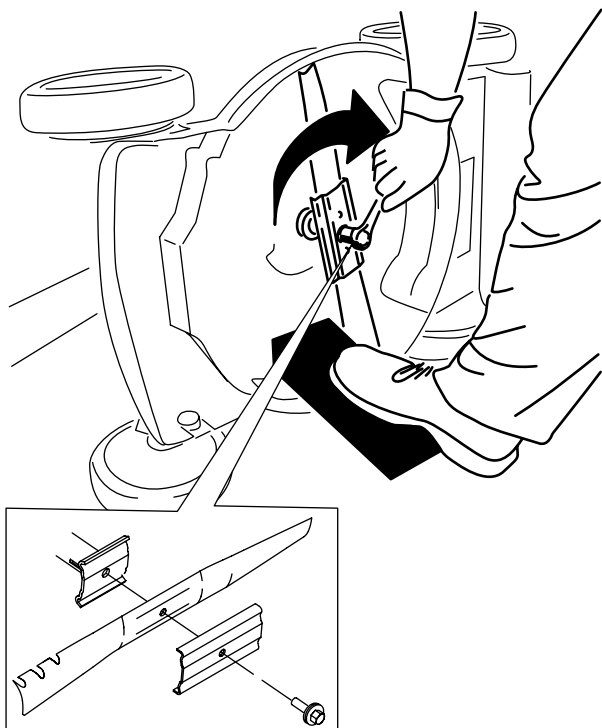

Figure 28
5. Install the new blade and all mounting hardware (Figure 28).
1. Turn the adjustment nut counterclockwise to loosen the cable adjustment (Figure 28).